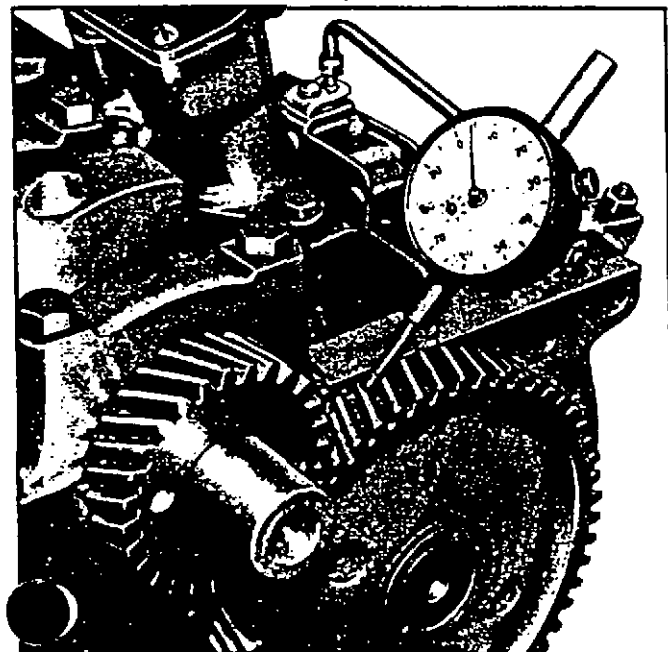

Fig. 18L—Checking Timing Gear Backlash
5. Check the backlash between the timing gear teeth with a dial indicator (fig. 18L). The backlash should not be less than .004" nor more than .006".